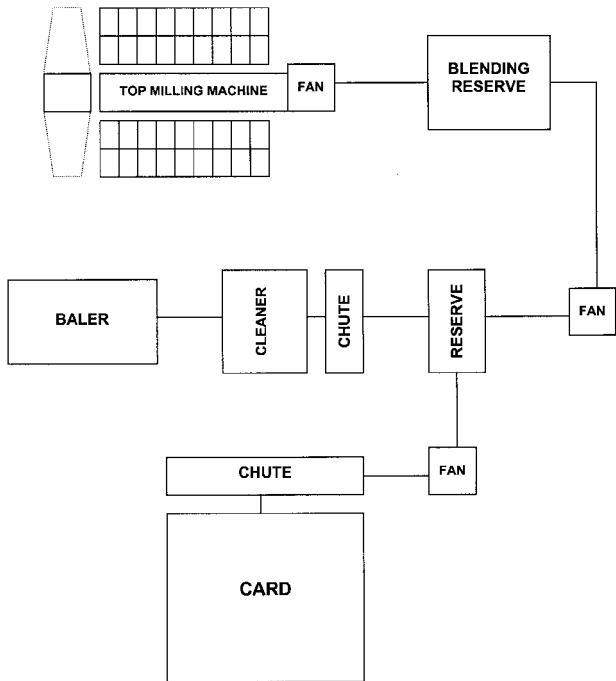

Figure 7. Bale Breaker-Blender/Cleaner/Baler/Nonwovens Line
*Bale Breaker-Blender/Cleaner/Baler/Nonwovens Line.* Raw cotton can be fed through an off-line cleaning system (Figure 7). The benefits of this method include optimum fiber mixing, the ability to clean one product while carding another, and the ability to run product with few, if any, adjustments to the existing nonwovens line.